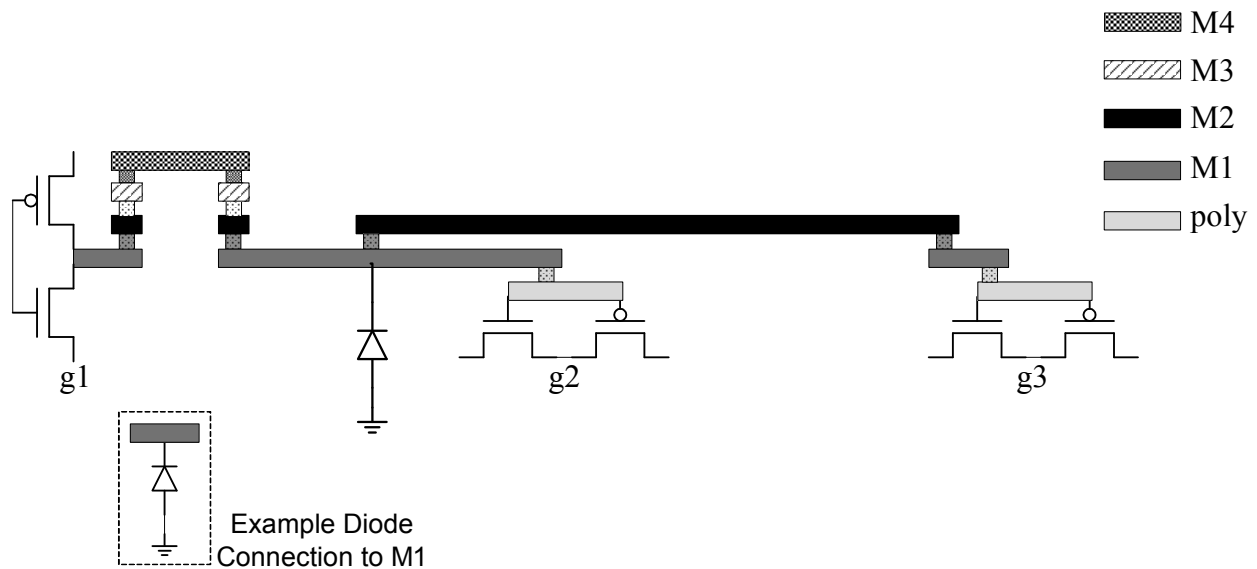

Figure 4. Circuit for Problem 3.0.
3.1 Consider the routing layout between three inverters g1, g2, and g3, as shown in Figure 4. Answer the following questions.
(c) (3 Points) Add one reversed biased diode to one of the existing metal nets to fix the antenna problem(s). Draw the diode within Figure 4. Explain below why you chose the location of your diode. (An example diode connection to M1 is shown in the bottom left corner of Figure 4.)